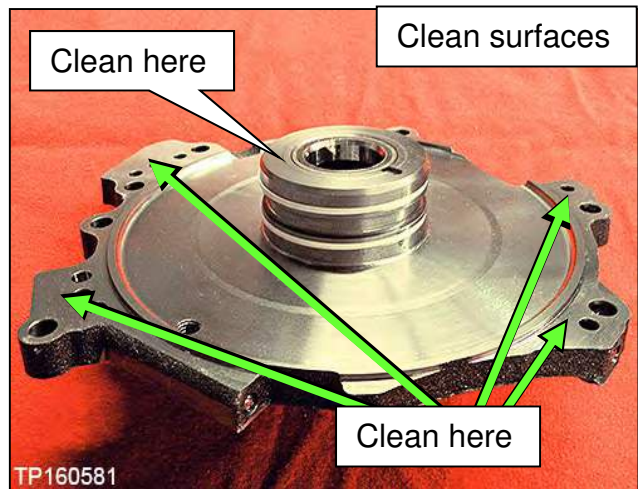

Figure 113
- Clean the dummy cover surfaces that contact the CVT case and thrust bearing (Figure 113).